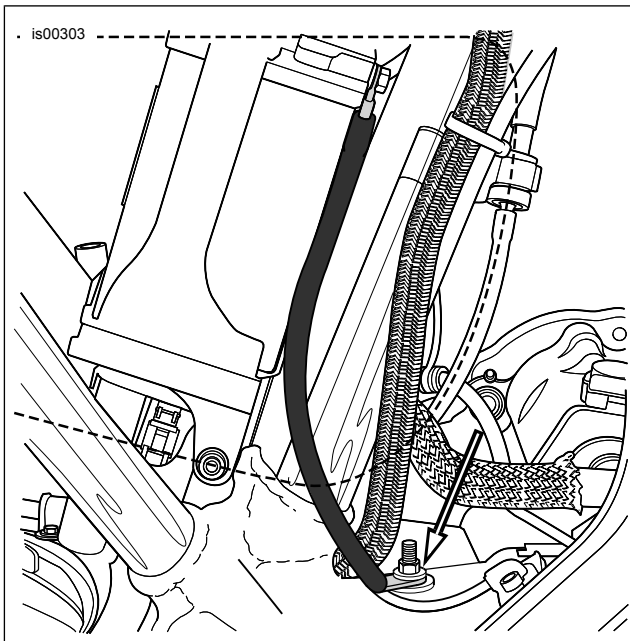

Figure 3. 2004 and Later XL Custom Ground Location
1. See Figure 3. Route the ground lead (BK) to the ground stud on the engine/transmission case.